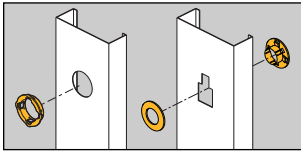

Figure 17 - BM1/BM2
320.17 Through or Parallel to Framing Members. Type AC cable shall be protected in accordance with 300.4 (A), (C), and (D) where installed through or parallel to framing members. (See Figures 17 & 18)
330.17 Through or Parallel to Framing Members. Type MC cable shall be protected in accordance with 300.4 (A), (C), and (D) where installed through or parallel to framing members. (See Figures 17 & 18)
(See Figures 17 & 18)